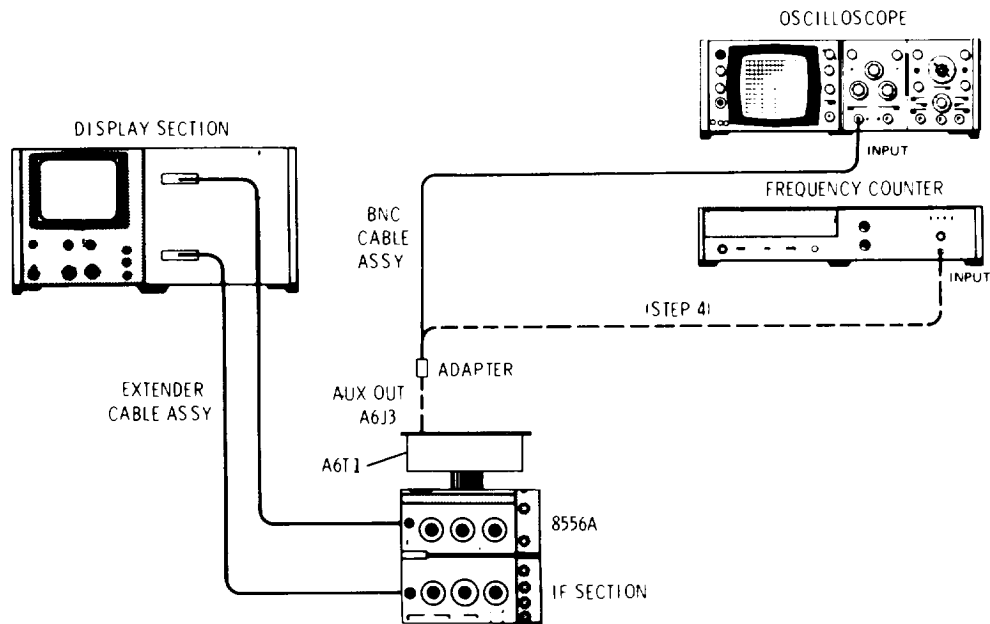

Figure 5-3. 50.150 MHz Local Oscillator Adjustment Test Setup
1. Connect equipment as shown in Figure 5-3. Remove Frequency Converter Assembly A6 from chassis and re-install on extender board. Connect Oscilloscope to A6J3 using BNC cable and adapter.